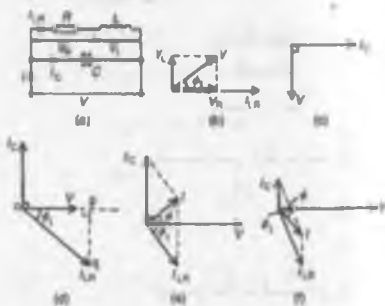

Figure 16.5
In the two branch circuit containing capacitance C in parallel with inductance L and resistance R in series (such as a coil) shown in Fig. 16.5(a), the phasor diagram for the LR branch alone is shown in Fig. 16.5(b) and the phasor diagram for the C branch is shown alone in Fig. 16.5(c). Rotating each and superimposing on one another gives the complete phasor diagram shown in Fig. 16.5(d)
The current I_{LR} of Fig. 16.5(d) may be resolved into horizontal and vertical components. The horizontal component, shown as op is $I_{LR} \cos \phi_1$ and the vertical component, shown as pq is $I_{LR} \sin \phi_1$. There are three possible conditions for this circuit:
- (i) $I_C > I_{LR} \sin \phi_1$ (giving a supply current I leading V by angle ϕ —as shown in Fig. 16.5(e))
(ii) $I_{LR} \sin \phi_1 > I_C$ (giving I lagging V by angle ϕ —as shown in Fig. 16.5(f))
There are two methods of finding the phasor sum of currents I_{LR} and I_C in Fig. 16.5(e) and (f). These are: (i) by a scaled phasor diagram, or (ii) by resolving each current into their 'in-phase' (i.e. horizontal) and 'quadrature' (i.e. vertical) components, as demonstrated in problems 6 and 7. With reference to the phasor diagrams of Fig. 16.5:
Resonance occurs in the two branch network containing capacitance C in parallel with inductance L and resistance R in series (see Fig. 16.5(a)) when the quadrature (i.e. vertical) component of current I_{LR} is equal to I_C . At this condition the supply current I is in-phase with the supply voltage V .